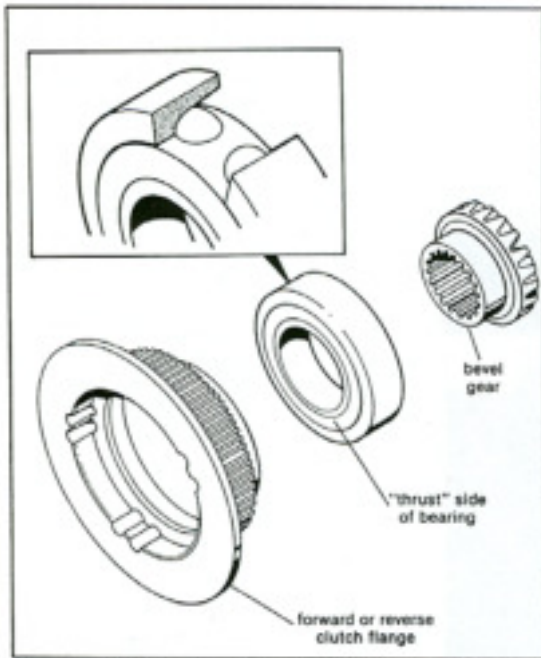

Figure 23. Clutch end flange, bearing and bevel gear. Bearing must be installed so that "thrust" side of bearing is toward clutch flange.
7. Press ball bearing into forward clutch flange. Make certain that thrust side of bearing goes toward clutch flange (see figure 23). Press bevel gear into ball bearing.
8. Likewise press the other ball bearing into reverse clutch flange (fig. 23). Then press bevel gear into ball bearing. Check that ball bearings on both flanges are well seated.